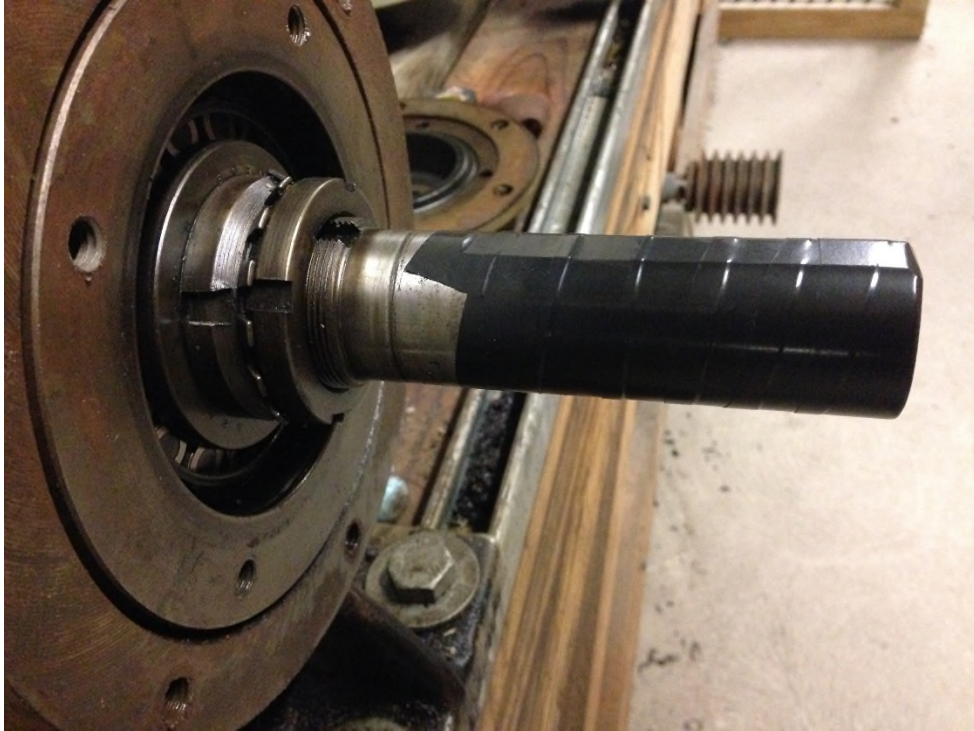

Figure 2. Install a wrap of electrical tape over the exposed shaft and keyway.
8. Install a wrap of electrical tape over the exposed shaft and keyway starting the wrap closest to the Geareducer and spiraling toward the outboard shaft end. See Figure 2.